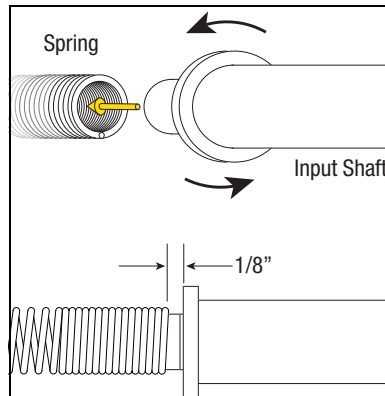

Figure 15. Screwing Input Shaft CCW Into Encoder Spring
13. With the encoder spring in your left hand and the input shaft in your right, orient the input shaft as shown in Figure 15, then rotate the input shaft in a counter-clockwise direction as you 'screw' it into the spring until the flange on the input shaft is about 1/8" from the end of the spring.